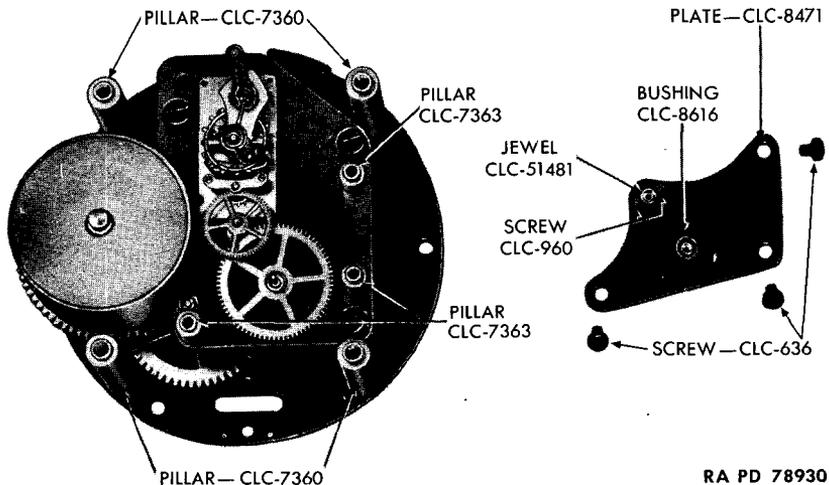

Figure 210 — Message Center Clock M1 — Fourth Bridge Plate Removed
j. Remove Fourth Bridge Plate. Remove the three fourth bridge pillar screws and fourth bridge plate (fig. 210).
k. **Replace Third and Fourth Wheel Plate** (fig. 210). Place the third and fourth wheel plate in position, aligning the pivots of the third and fourth wheels in their bearings. Secure with bridge plate screws. *NOTE: Care should be exercised not to damage the fourth wheel jewel.*